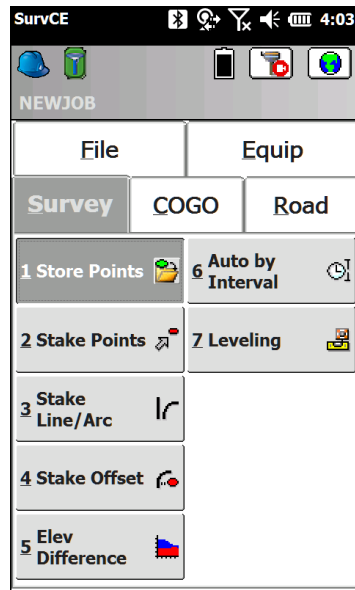

Figure 5
1. From the main screen, choose the Survey tab (Fig.5)